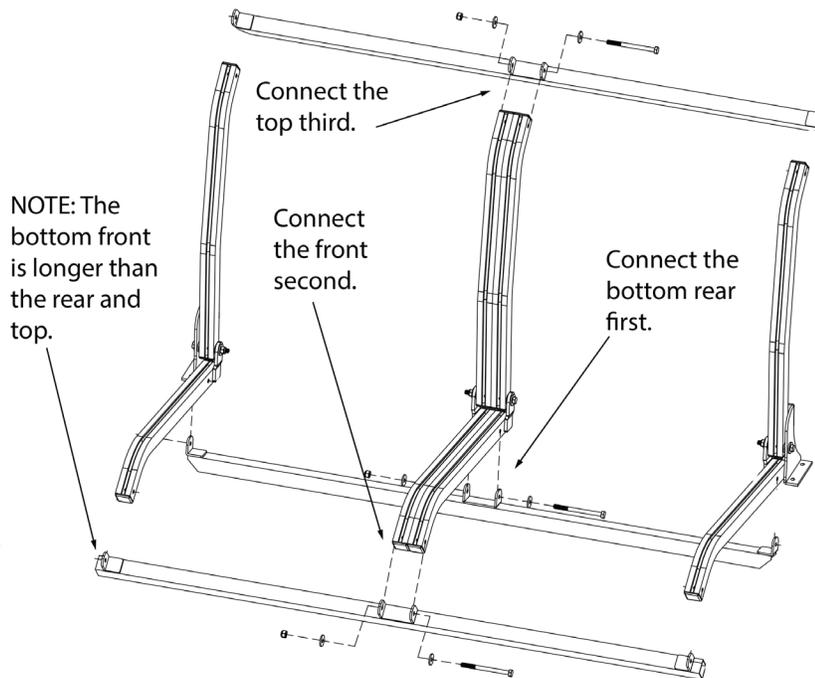

Figure 27
STEP 12: Install the bottom rear seat spreader bar by placing the middle seat frame in the center of the bracket and bolt together using one (1) $\frac{1}{4}$ " x 3-1/4" bolt, two (2) washers and one (1) nut as shown in Figure 27. Do not tighten nut yet. Next, install the bottom front seat spreader bar by placing the two (2) middle seat frames in the center of the bracket and bolt together using one (1) $\frac{1}{4}$ " x 3-1/4" bolt, two (2) washers and one (1) nut as shown in Figure 27. NOTE: This spreader bar is longer than the other two. Do not tighten nut yet. Next, install the top seat spreader bar by placing the top of the two (2) middle seat frames in the center of the bracket and bolt together with one (1) $\frac{1}{4}$ " x 3-1/4" bolt, two (2) washers and one (1) nut as shown in Figure 30. You may now tighten all the center spreader bar nuts.